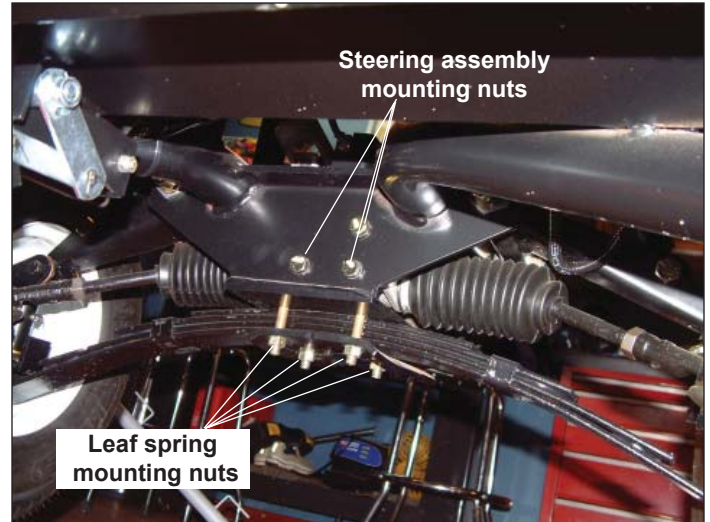

Figure 6-9. Steering Assembly Mounting To Frame
4. Remove three bolts securing rack and pinion steering assembly to frame (Figure 6-9).
- Install three mounting bolts through frame and into steering housing (Figure 6-9) and secure with nuts. Torque to 31-35 ft. lbs. (4.3-4.6 Kgm).
- Remove four mounting nuts securing leaf spring retainer plate and remove leaf spring (Figure 6-9).